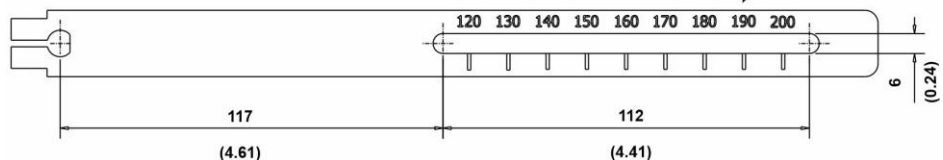

Figure 1.10 – Feedback arm sizes
4. The FY500 mounts on linear actuators with up to 200 mm (8 inch) travel. Refer to figure 1.10 for the different travel feedback arm sizes depending upon travel of actuator be used.